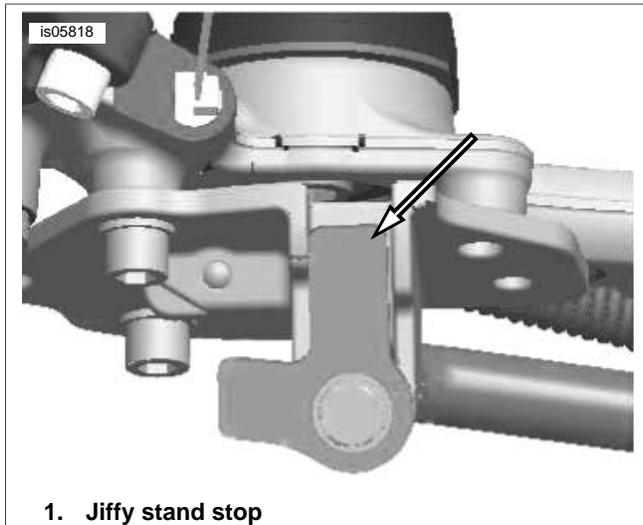

Figure 12. Install Jiffy Stand Stop
3. See Figure 12. Install new jiffy stand stop (1) from kit with hardware removed in Step 1. Note the orientation of the new stop. Tighten bolt to 15-20 ft-lbs (20-27 Nm).